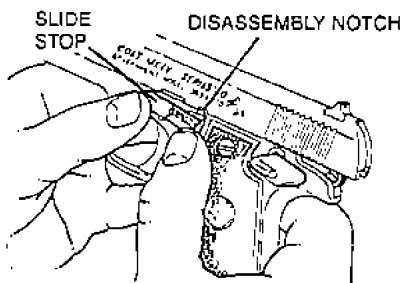

Figure 12 — INSTALLING SLIDE STOP
**(A&B)** Keep pushing the slide along the receiver. Look through the slide stop hole in the receiver until the barrel lug hole is in line with it. Insert the slide stop through the slide stop hole until it is almost home. Continue to push the slide rearward until the disassembly notch lines up with rear part of the slide stop. This will allow slide stop to be pushed fully home; see Figure 12.